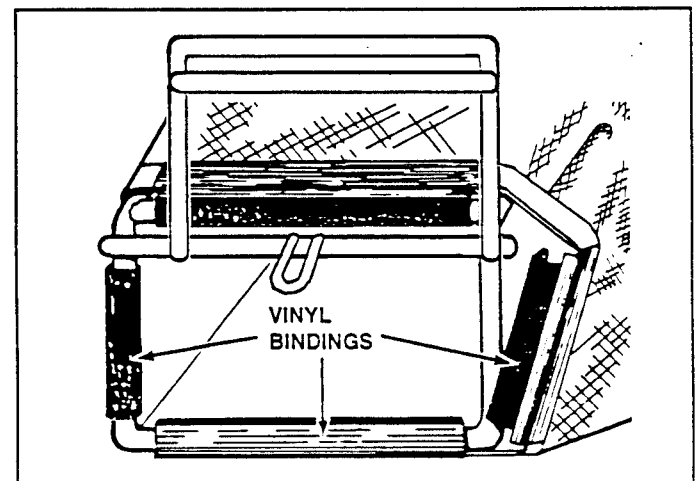

FIG. 4
- Starting with the sides first, slip all four (4) vinyl bindings onto lower frame (see Fig. 4).